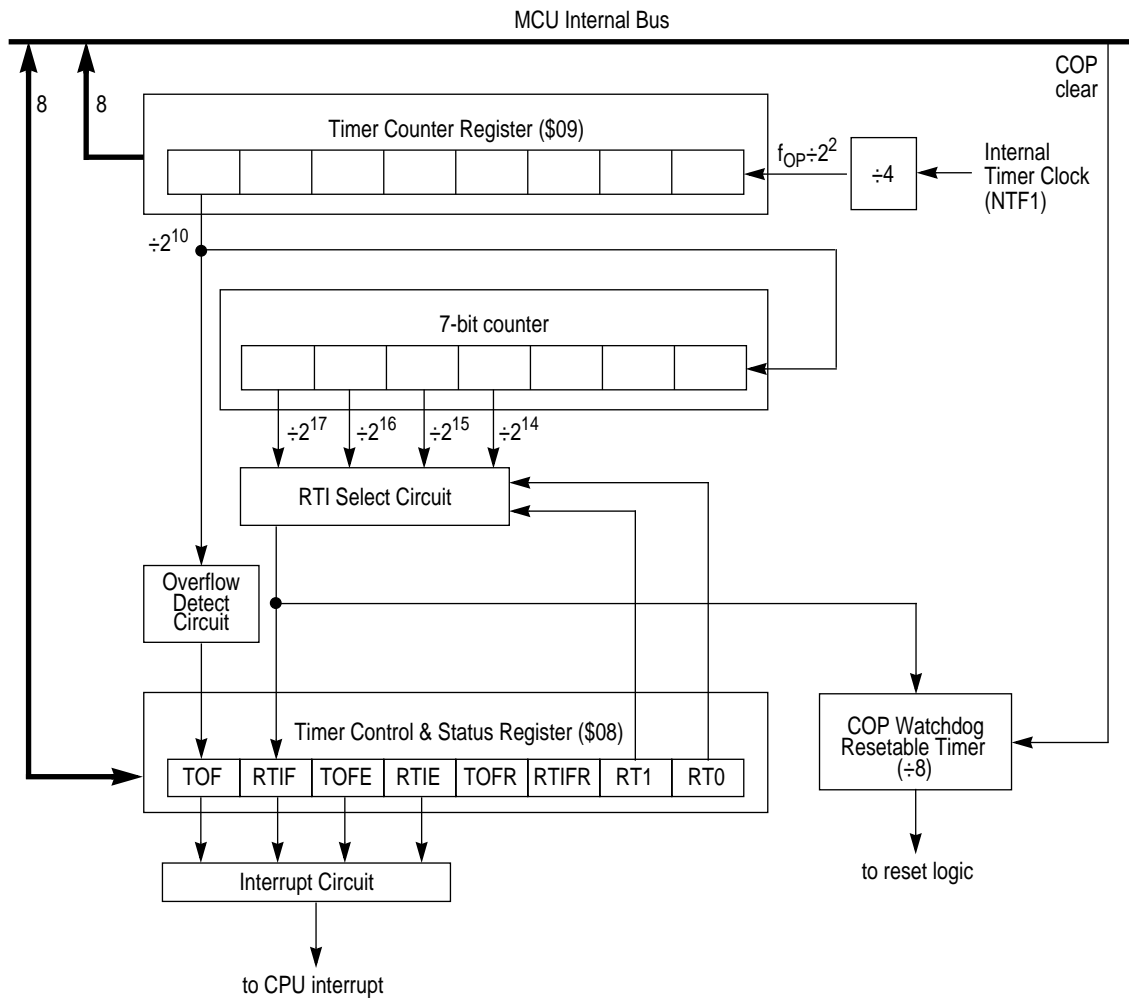

Figure 8-1. Multi-Function Timer Block Diagram
As shown in **Figure 8-1**, the Timer is driven by the timer clock, NTF1, divided by four (4). NTF1 has the same phase and frequency as the processor bus clock, PH2, but is not stopped by the WAIT or HALT Modes. This signal drives an 8-bit ripple counter. The value of this 8-bit ripple counter can be read by the CPU at any time by accessing the Timer Counter Register (TCR) at address \$09. A timer over-